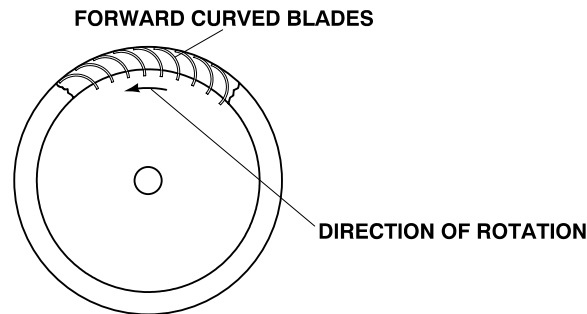

Figure 1. FAN IMPELLER DIRECTION OF ROTATION.
2. Remove the screws (1) securing the front face of the blower and motor assembly (2) to the evaporator housing. See Figure 1.
3. Support the evaporator blower and motor assembly and remove the remaining screws, from the rear shelf area. See Figure 1.